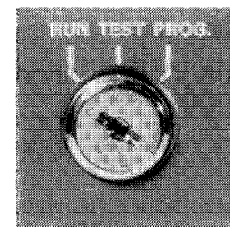

Figure 5.2 — Mode Select Switch
**5.1.2 Mode Select Switch** — Beneath the Diagnostic Indicators on the front of the Mini-Processor, is the Mode Select Switch. (Refer to Figure 5.2.) By means of this 3-position keylock switch, the mode of controller operation is selected. Switch positions are: